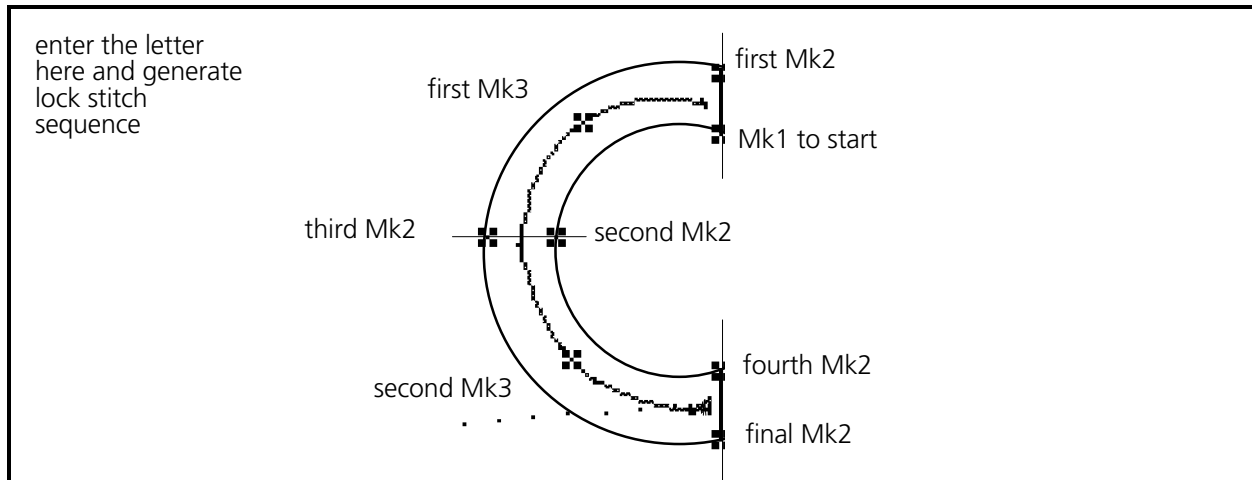

Figure 3-25
1. Go to the start of the inside line of the top of the letter **c** and enter the Mk1 to start (see Figure 3-25).
2. Now enter the first Mk2 at the start of the outside line of the top of the letter (see Figure 3-25).
3. We have previously plotted the letter into two arc segments since the circumference of the letter **c** is more than 180 degrees rotation. For uniformity, we made the segments equal, divided at the mid-point of the letter. Therefore, we will want to enter the first Mk3 (for the first column on an arc) in the middle of the column and half way around to the middle of the letter (see Figure 3-25). Notice that the Mk3 is defined by the specific rule for method one.
4. Enter the second Mk2 to define the end of the inside line of the column at the midpoint of the letter (see Figure 3-25).
5. Enter the third Mk2 to define the end of the outside line of the column at the midpoint of the letter (see Figure 3-25).
6. Enter the second Mk3 in the middle of the column, mid-way around the bottom portion of the letter **c**, in the middle of the letter (see Figure 3-25). Again notice that the Mk3 is defined by the specific rule for method one.
8. Finish the column definition with the final Mk2 at the end of the outside line of the arc (see Figure 3-25).